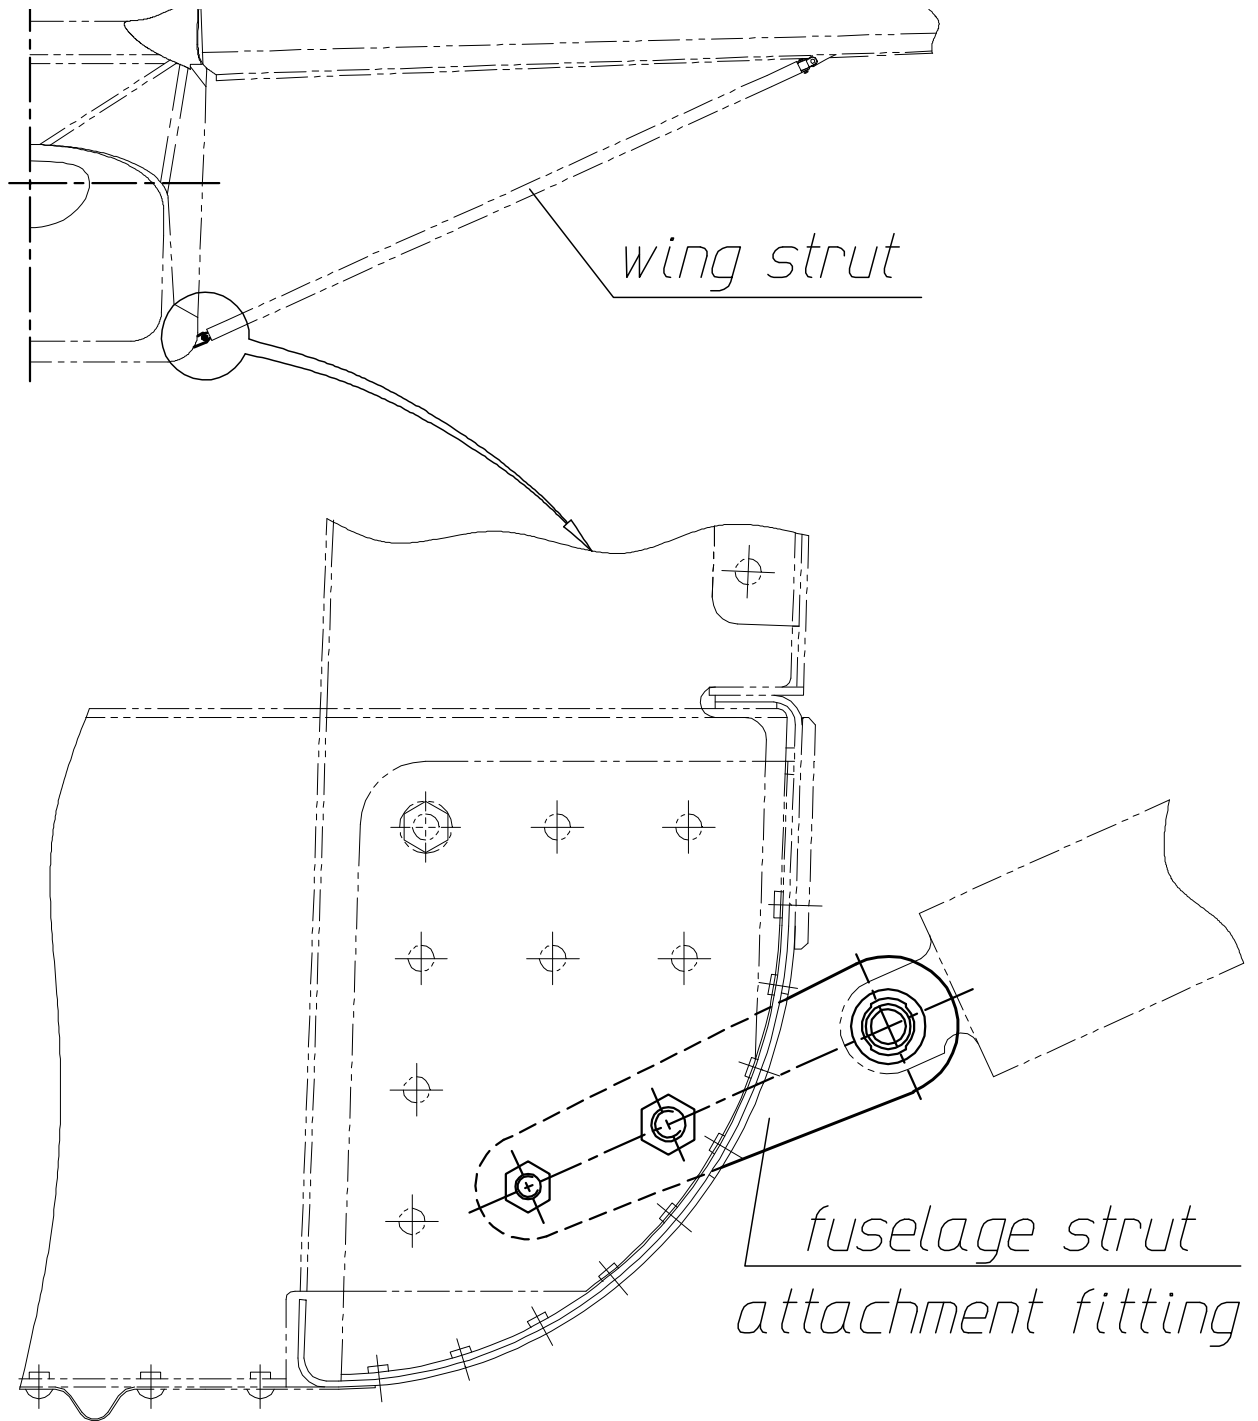

Fig. 1
- 2) Remove the fuselage strut attachment fittings (fig. 1) and send to Aeroprakt.